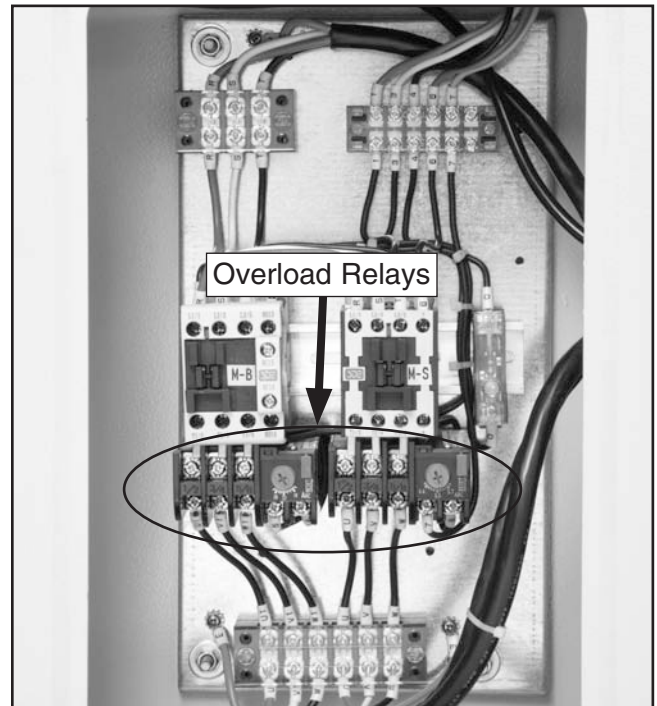

Figure 5. Locations of the overload relays on the electrical panel.
3. Make note of wire locations on both overload relays installed on the electrical panel (see **Figure 5** and refer to **Electrical Cabinet Wiring Diagram** on **Page 73**).